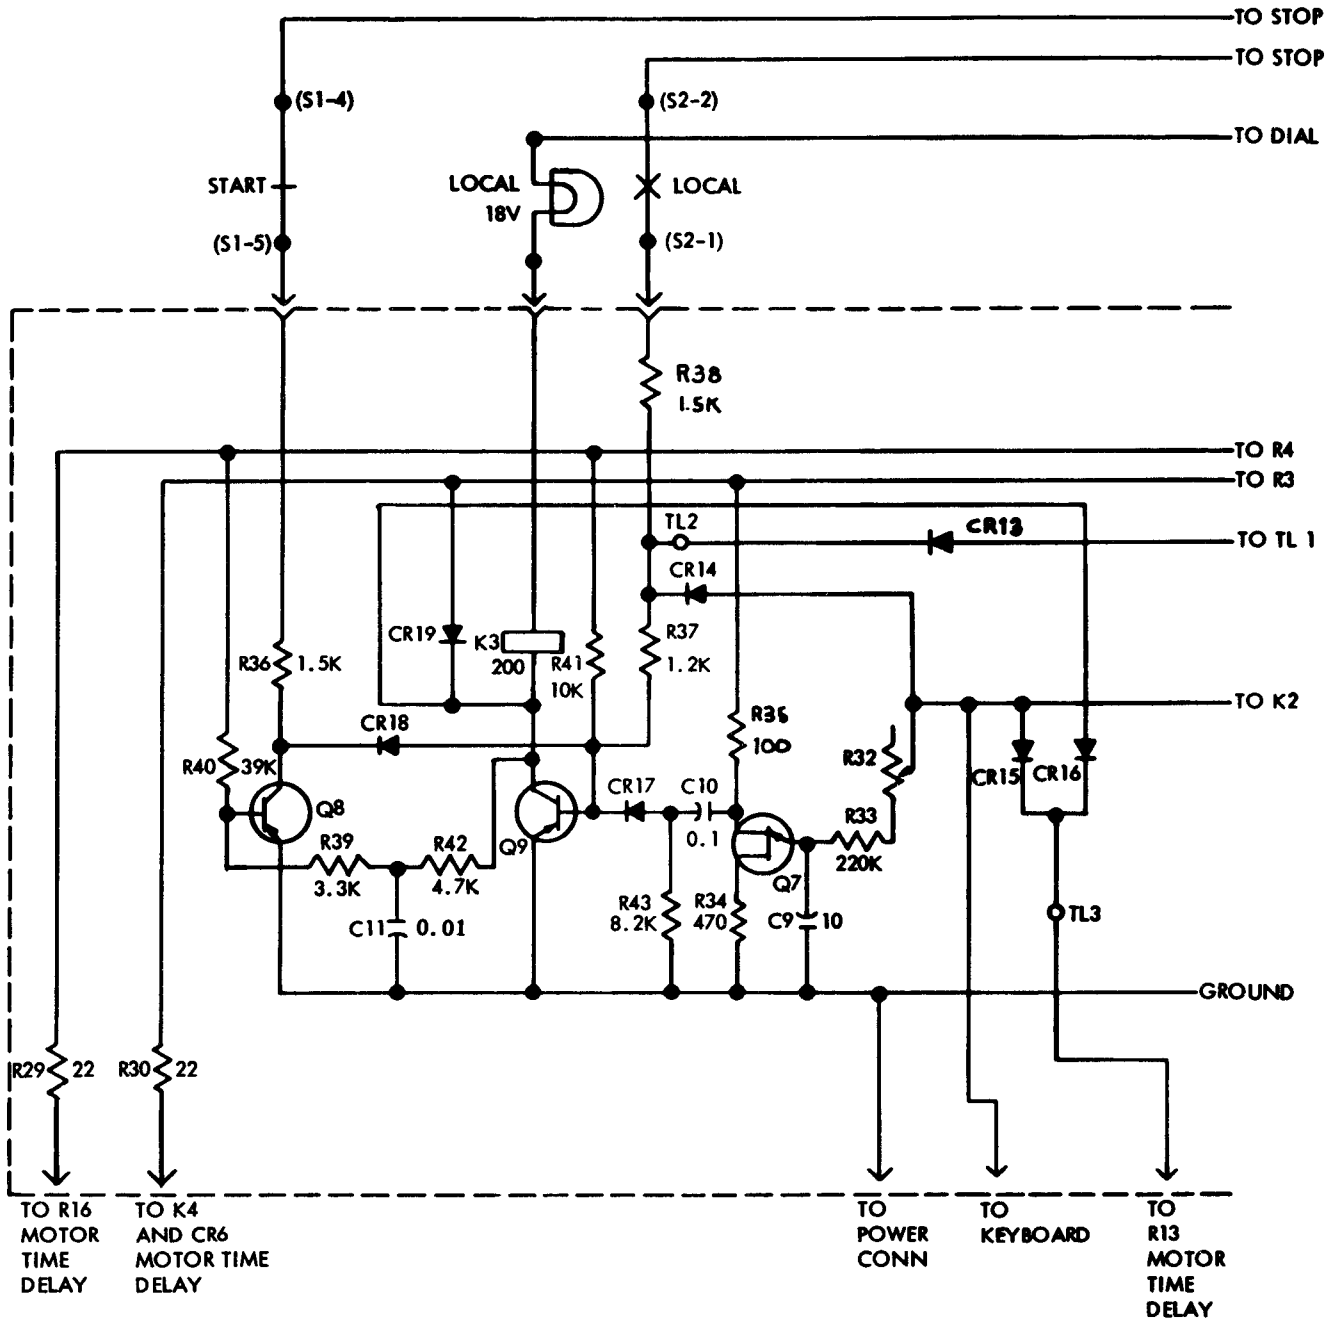

Figure 4 - Local Circuit
3.08 The local circuit (Figure 4), consists of a binary and a unijunction transistor timer. The binary operation of Q8 and Q9 is the same as that described in the proceed-to-dial circuit. Four input controls are available for use with the local circuit.